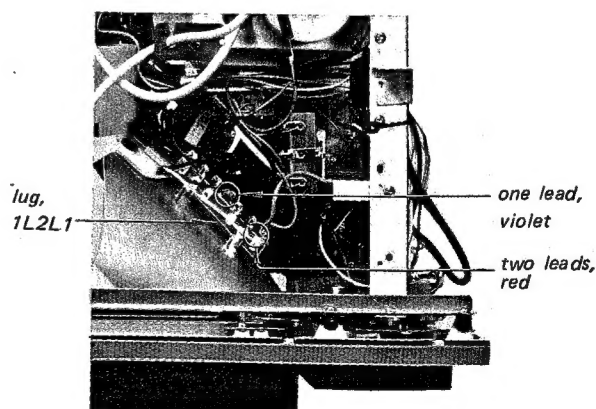

Fig. 2-18.
4. Unsolder the three leads (two red and one violet) as shown in Fig. 2-18.